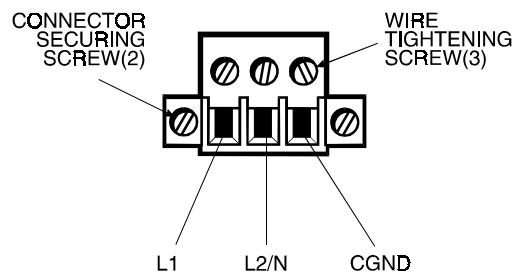

Figure 3-16. AC Power Connector
4. Insert the three wire ends of the power cable into the three holes of the block plug. Insert the Protective Earth GND ground, L1, and L2/N wires into the corresponding holes, as shown in Figure 3-16. Be sure that no bare wires are exposed.